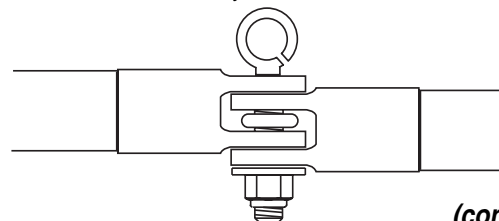
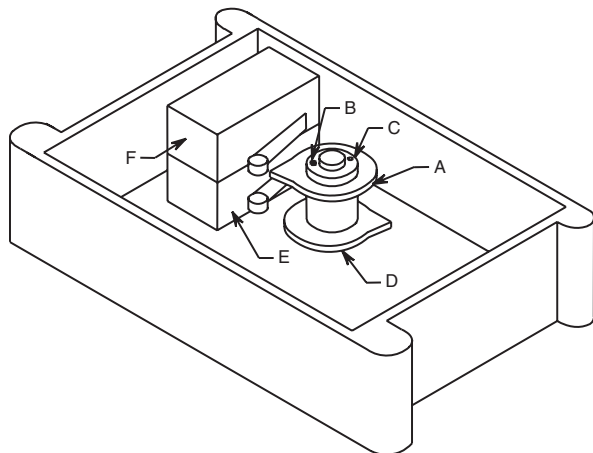

Figure 3
Figure 4 (Limit Switch)
- ③ Attach cable to top batten. At pivot points, make a **small** cut in the pocket above the pipe, wrap cable around batten and temporarily secure with cable clamps. At other attachment points, make a small cut just below the batten, wrap cable around batten, and temporarily secure with cable clamps. DO NOT attach cable to eye bolt.
- ④ Operate winch to raise curtain into position.
- ⑤ Once raised to proper height, attach clamps hanging from the pulley assemblies to the top batten, using small holes for lower clamp bolts, and secure chains at pivot points by connecting the chain to the pear-shaped snap hooks. Disconnect the $\frac{1}{8}$ " cables from the top batten and pass through eyebolts (see Fig. 3 and Fig. 4).
- ① If necessary, relocate pulley assemblies to ensure that drop cables and chains are vertical. (Note: center chain will not be vertical.)
- ② To ensure that the bottom of the curtain is level, use 4" wooden blocks to hold curtain off floor during adjustment.
- ③ Operate curtain up to stored position and set limit (see Fig. 4). Operate curtain to the down position and set limit (see Fig. 4).
- ④ The chains connecting the top of the curtain to the pulley assemblies can be shortened or lengthened to raise or lower the position of the curtain.